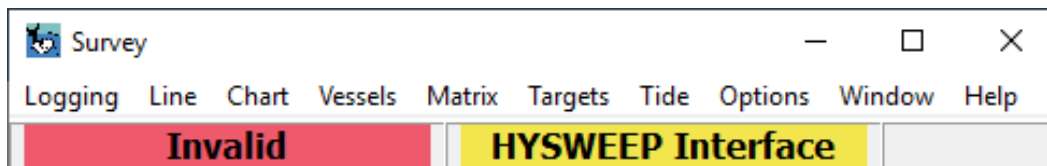

Figure 4.—HYPACK Survey window (and menu bar) accessed from the HYPACK shell.
Once matrix files are created, collected bathymetry data will display and update in real-time if it is selected in the HYPACK Survey window (figure 4). Under the Survey drop-down menu in the HYPACK shell top menu bar (figure 1), select “HYPACK Survey” to access this window. Once in the HYPACK Survey window, load the matrix files using the following two steps:
1. Click on “Matrix” from the HYPACK Survey menu bar (figure 4).